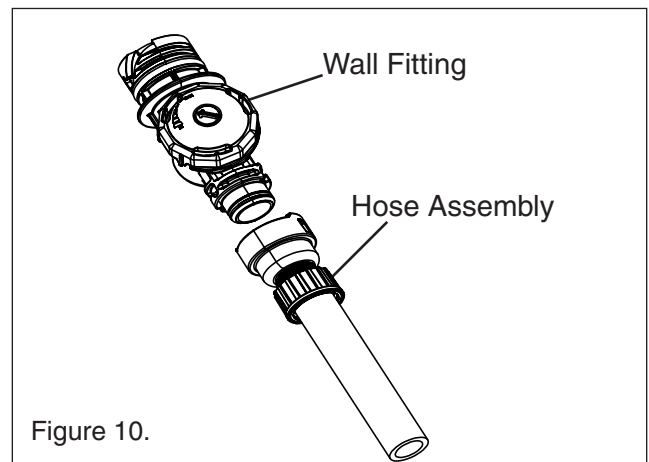

Figure 10.
1. Attach the hose assembly to the wall fitting. **See figure 10.** Then attach the wall fitting (with hose) to the wall adaptor. **See figure 10.** Take the opposite end of the hose assembly and walk to the farthest point of the pool from the wall adaptor. **To prevent over stretching the hose, rest the hose on top of the pool water.** Measure the excess hose length (hose that extends beyond pool edge). This determines the amount of hose to be cut from sections 2 and 3.